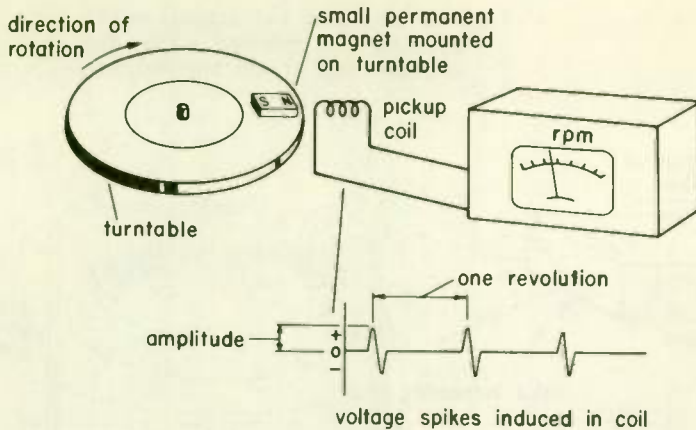

Fig. 18
3. Figure 18 shows a simple tachometer for measuring the speed of a turntable in rpm. A tiny permanent magnet is mounted on the turntable and passes a pickup coil once each revolution. As the magnet passes the coil, a voltage "spike" is induced in the coil. This is fed to a pulse-counting circuit that counts the number of spikes per minute and thus registers the speed of the turntable in rpm. Is the amplitude of the induced voltage spike affected by the speed of the turntable? (a) *(yes) (no)* Why? _____ . Using a stronger permanent magnet on the turntable would (b) *(increase) (decrease) (not affect)* the amplitude of the induced voltage spike. Doubling the number of turns in the pickup coil would cause the induced voltage spike to (c) *(decrease to about one-half) (double) (remain the same)*.
4. Figure 18 shows that the voltage of each spike reverses polarity, so that the induced current evidently flows in one direction during half of the spike period and in the other direction during the other half. When and why does this induced current reversal occur?